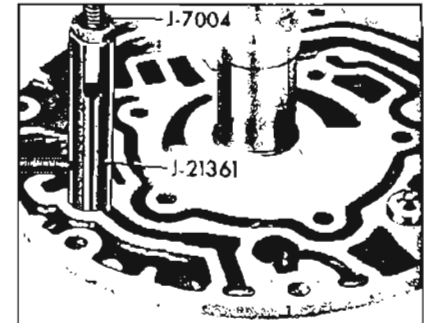

Figure 5-190
8. Remove seat, valve and spring from cooler by-pass valve. Use Tool J-21361 to remove seat from bore in pump cover. See Figure 5-190.